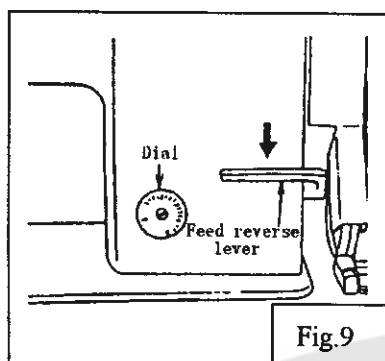

Fig.9
5. Adjustment of stitch length and reverse sewing (Fig. 9):